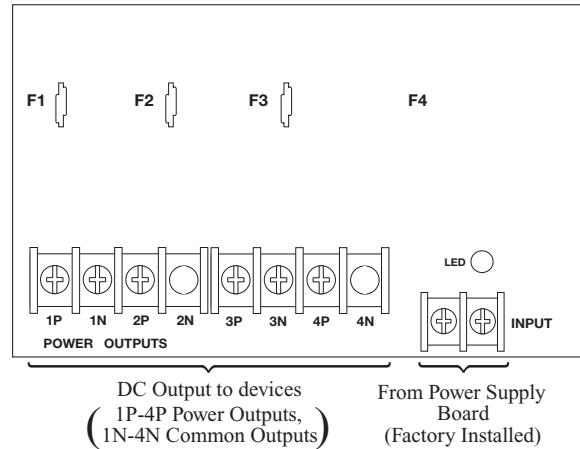

Fig. 3a
- b. For other Power Distribution Models: connect devices to be powered to the terminal pairs 1 to 4 marked [1P & 1N] through [4P & 4N] (*Fig. 2a & 2b, pg. 5*) or 1 to 8 marked [1P & 1N] through [8P & 8N] (*Fig. 3a & 3b, pg. 5*), carefully observing correct polarity.